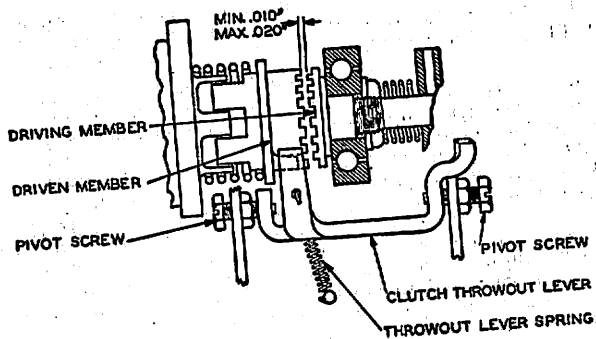

Fig. 2
3.04 **Main-shaft clutch teeth** shall clear each other by Min. .010", Max. .020" when clutch is fully cammed out of engagement. Fig. 2